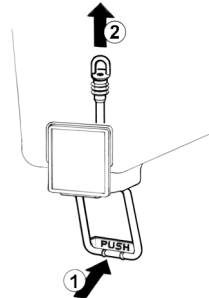

figure 2
- 5 Pinch tube faucet:** push the dispensing handle (1) and take the pinch tube off from its seat (2) (see figure 2).